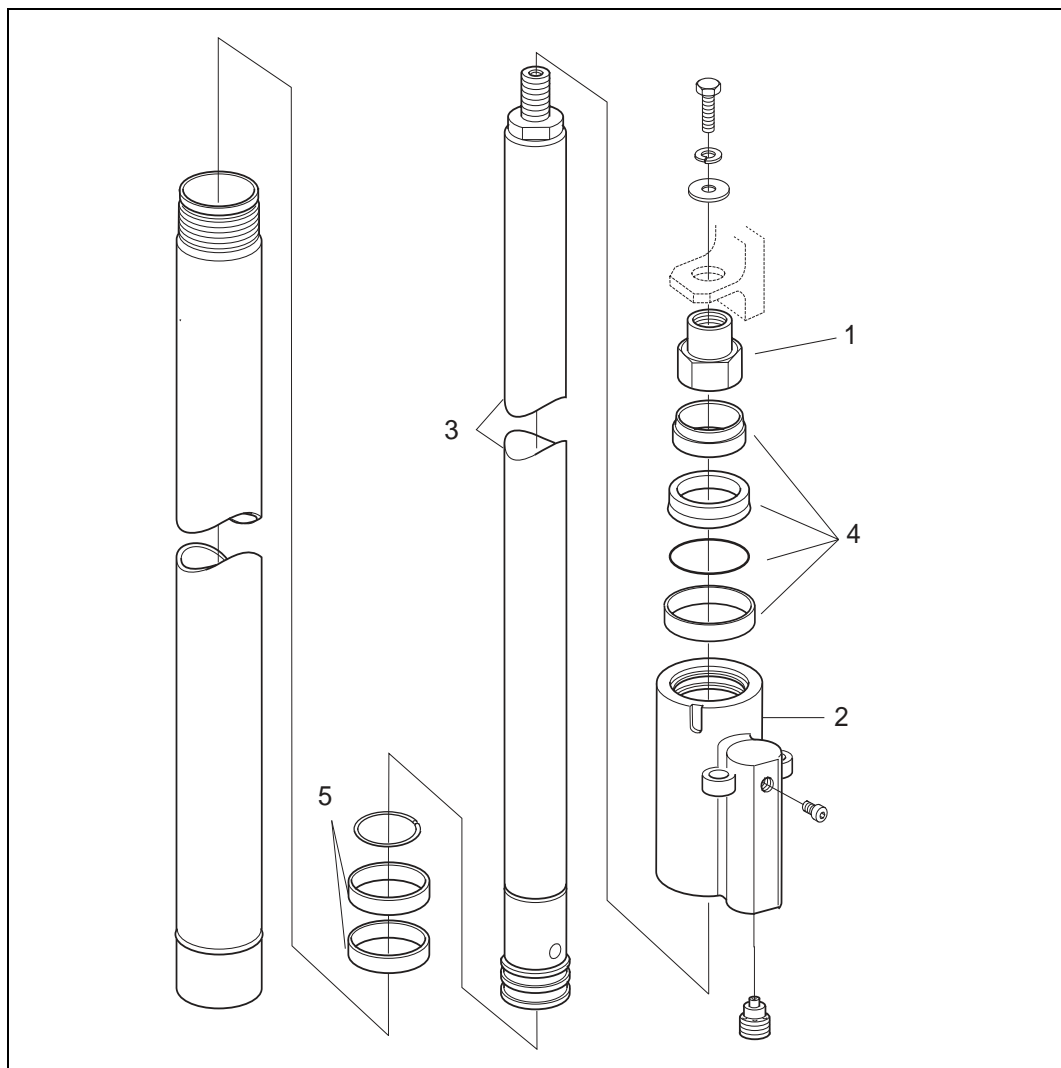

Figure 9.4 Lift cylinder TV/TFV/DTFV
1. Note how far the adjusting screw, pos. 1 see Figure 9.4, is screwed into the piston rod end (required when fitting).
2. Unscrew the adjusting screw, pos. 1.